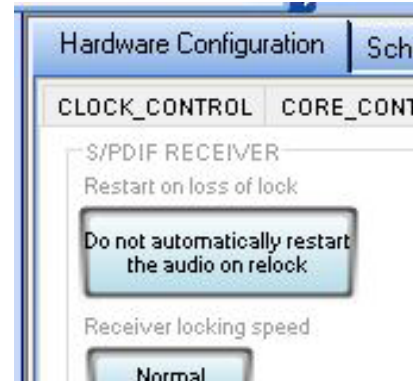
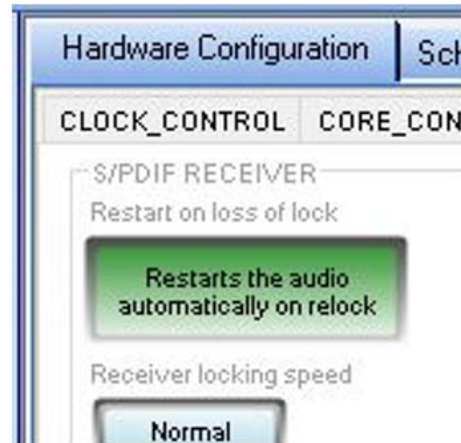

Figure 36. Activating the SPDIF_RESTART Register, Initial Button
Figure 37. Activating the SPDIF_RESTART Register, Changed Button
- Enable the SPDIF_RESTART register by clicking the **Do not automatically restart the audio on relock** button (see Figure 36). After clicking this button, the text displayed on the button changes to **Restarts the audio automatically on relock** and the color changes from red to green (see Figure 37).